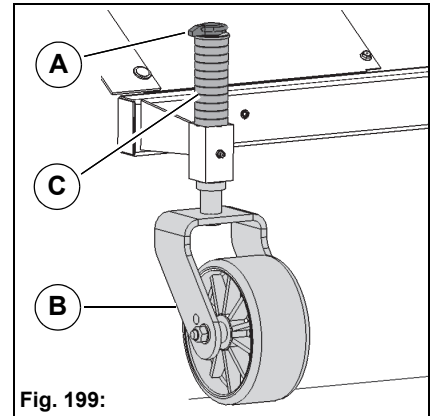

Fig. 199:
2. Remove the split-pin **Fig. 199-A** from the bolt of the wheel fork and withdraw the supporting wheels **Fig. 199-B** downwards.
3. Adjust the sweeping level with the washers **Fig. 199-C** on both supporting wheels. For optimum sweeping effect the bristles should press over the ground approx. 20 cm.